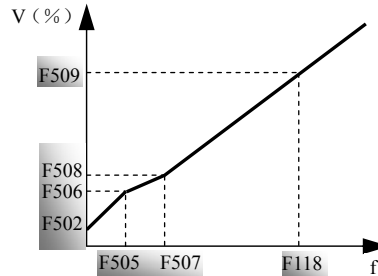

Fig5-8 Polygonal-Line Type V/F
- User may define on its own polygonal-line type V/F curve as per its requirements and actual load, as shown in Fig 5-8.